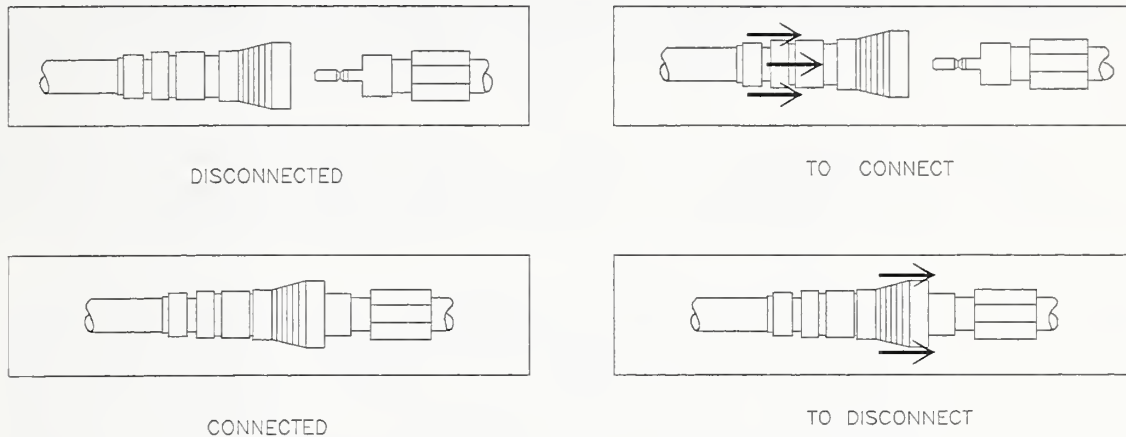

Figure 18. Female and male quick-connect operation
- e. Push the body of the female quick-connect toward the center of the base unit until it clicks. Refer to Figure 18. To shorten the air hose to suit your application, see **Appendix C** on page 60.
- a. Push the collar on the female quick-connect toward the center of the base unit. (The air hose will spring back.) See Figure 18.